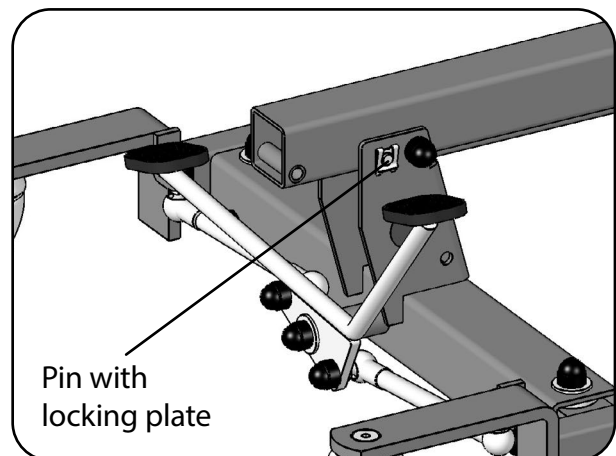

Fig. 6.2.1.02 – Stand mast holder
5. Set the stand mast upright (Fig. 6.2.1.03) and fully align the hole on the stand mast with the lower hole on the stand mast holder. Then secure the stand mast again using the bolt (Fig. 6.2.1.04).